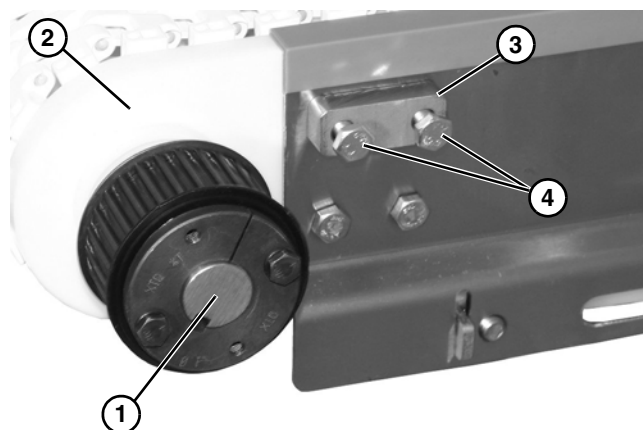

Figure 5
2. Locate drive output shaft (**Figure 5, item 1**). Remove top two existing bolts securing headplate (**Figure 5, item 2**) to conveyor frame.
3. Install spacer (**Figure 5, item 3**) and two longer bolts provided (**Figure 5, item 4**) into conveyor frame and headplate. Leave bolts loose with enough space to slide on mounting assembly.